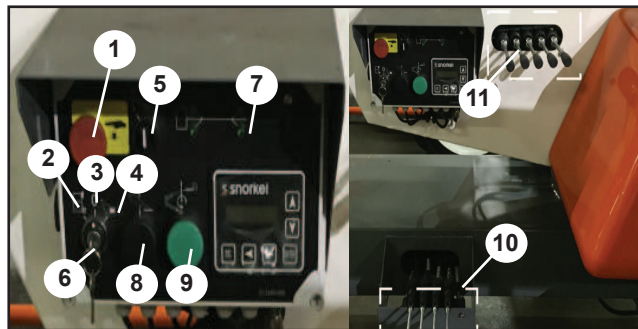

Figure 2-12 – Lower Control Station
1. Twist and pull the emergency stop button outward (refer to Figure 2-12).
1. Hold down on the outrigger raise/lower button (refer to Figure 2-12).
1. From the lower controls, twist and pull the emergency stop button outward (refer to Figure 2-12).